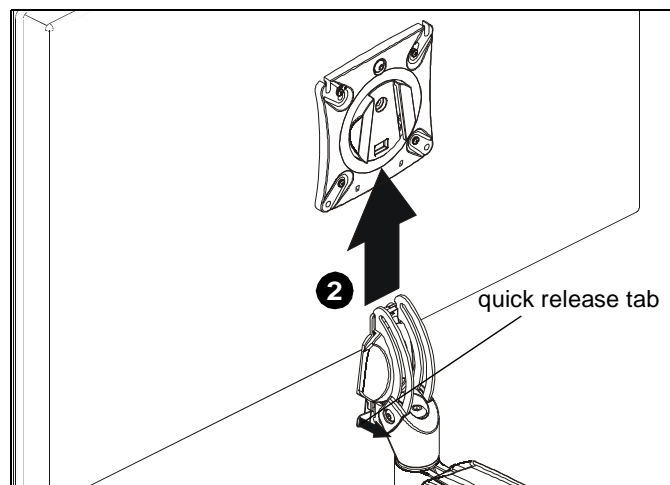

Figure 20
**WARNING:** Only remove display from mount when the display can be lifted up from the mount! DO NOT remove display unless the display is in the upright position! (See Figure 20)
2. Remove quick release faceplate from mount by pulling quick release lever and sliding faceplate off mount. (See Figure 20)